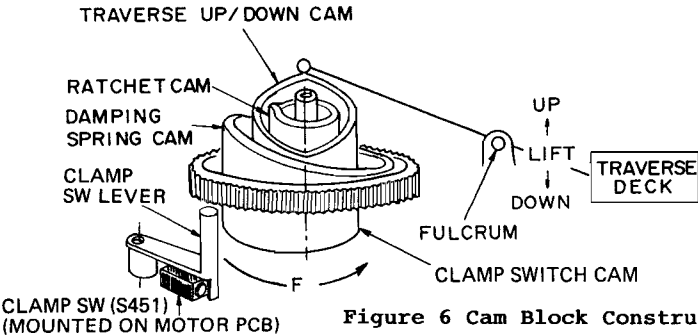

Figure 6 Cam Block Construction
- C) The cam block turns in the direction indicated by arrow F, thus causing the traverse deck to lift up or down. (aarefer to figure 6).
This switch (S451) detect whether the traverse deck is at either the uppermost or lowermost position. It is operated by the cam located at the bottom of the cam block. (refer to figure 6).